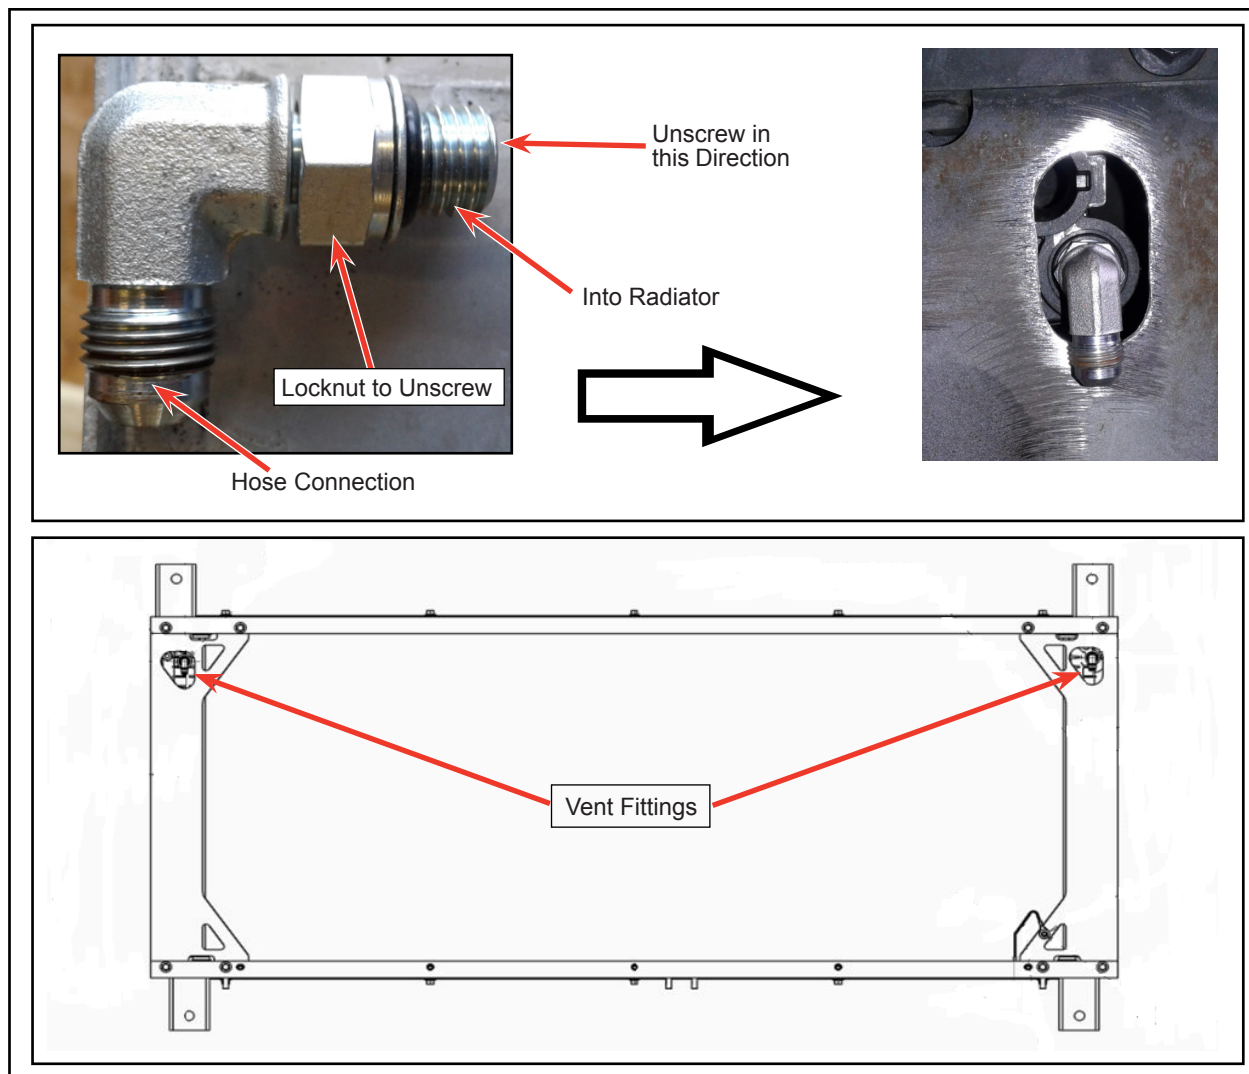

Figure 15 - Typical View of Vent Fittings Installation
- 1.35. Install the two vent fittings to which the coolant hoses are to be fitted. Hand tighten as much as possible into the radiator and torque to 15-18 Nm (see Figure 15).